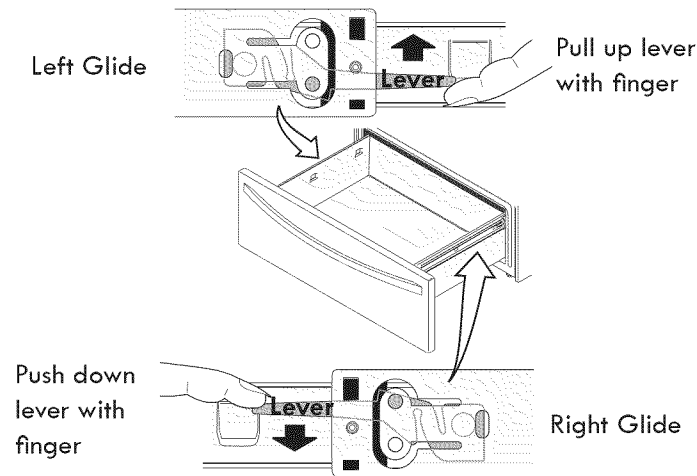

Figure 1
2. Locate glide lever on each side of drawer, pull up on the left glide lever and push down on the right glide lever (See Figure 1).